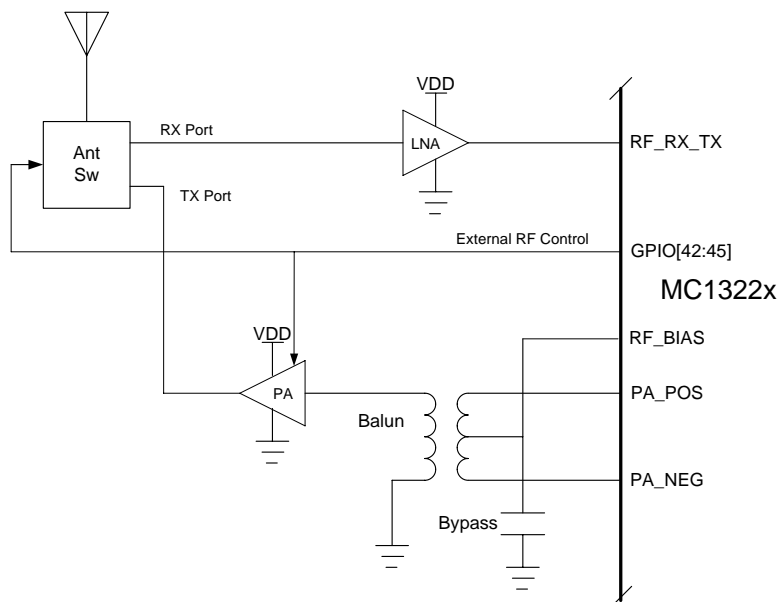

Figure 3-15. Typical MC1322x Dual Port RF Configuration using Secondary PA Outputs
- **PA_POS** and **PA_NEG** - a separate set of differential PA outputs are provided for a secondary TX path. The differential PA outputs are typically used with an external PA for increased output power after they are converted to a single-ended signal through a balun(see Figure 3-15).